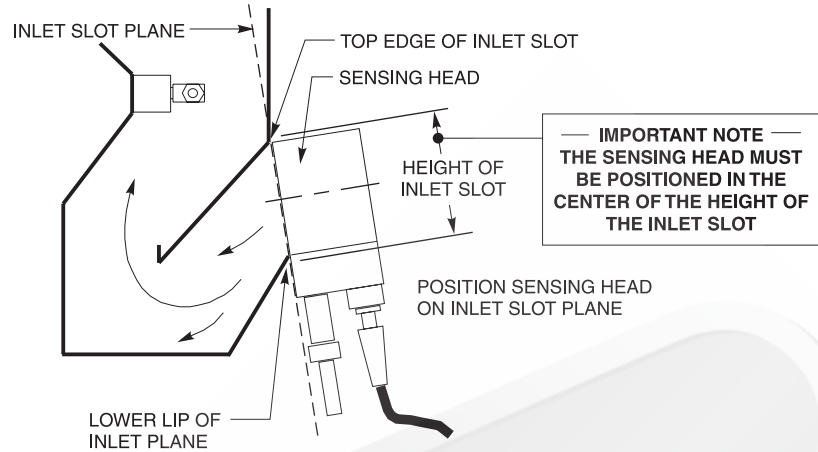

FIG. 23A
3. Starting at one end of the ventilator, place the probe head in the middle of the slot on the inlet slot plane as shown in figure 23A.